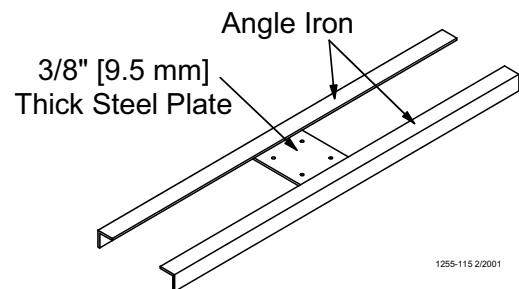

Figure 5. Optional Power Lift Winch support detail
1. Bolt the Power Winch, fully assembled, to the Power Lift Winch Support, either a 2" x 8" [50x200 mm] board that will span at least 3 rafters or a 3/8" [9.5 mm] thick steel plate welded to two pieces angle iron that are each long enough to span at least 2 rafters, using 5/16-18 hardware supplied in the Hardware Package. The brake mechanism will extend toward one side. See **Figure 5**.